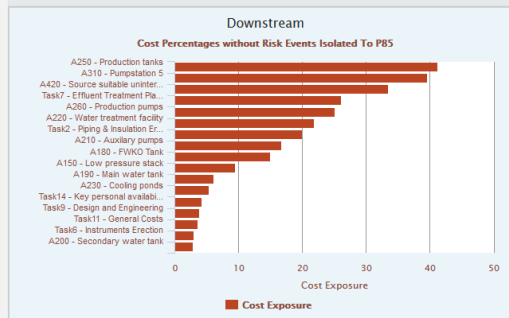

Figure 2.76
2. Select the chart using the provided **checkbox** in the corner of each chart. (Figure 2.76)